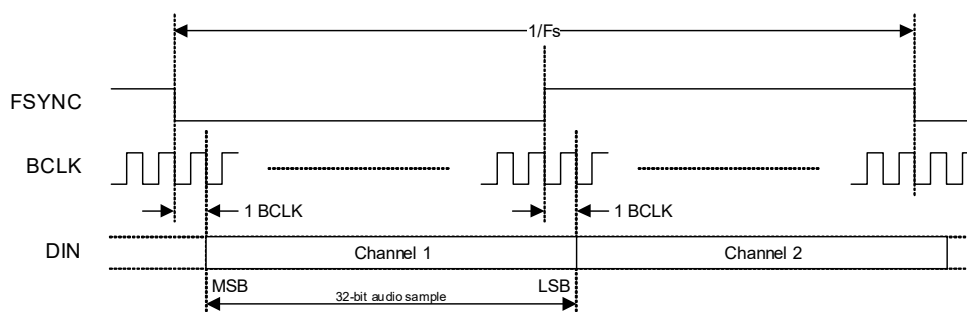
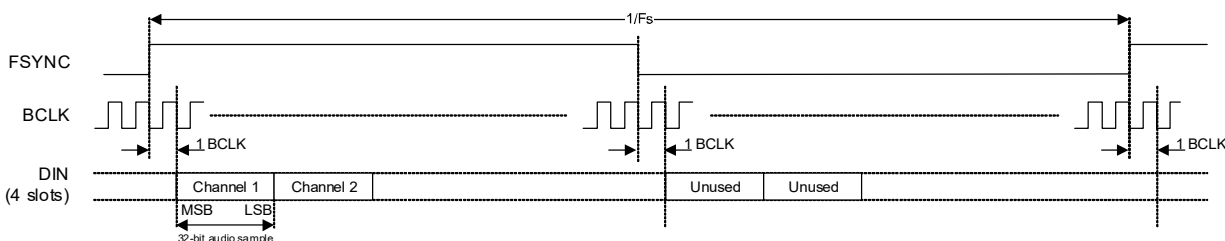

Figure 4-20. I²S Data Format
Figure 4-23. TDM Data Format, 4-Slot Example (FSYNC = Square Wave)
The ASP data format in I²S, Left-Justified, and TDM interface modes as illustrated in Fig. 4-20 through Fig. 4-23. Refer to Table 4-12 for the applicable definition.
- If I²S data format is selected, the ASP supports audio channels 1–2 as shown in Fig. 4-20. The minimum BCLK rate is $64 \times F_s$ (where F_s is the sample rate). In ASP Primary Mode, the minimum BCLK rate of $64 \times F_s$ is not supported for sample rates of 16 kHz or 32 kHz. A higher BCLK frequency can be used, resulting in unused BCLK cycles between the LSB of one sample and the MSB of the next.
An example of the 4-slot TDM format in ASP Primary Mode with the FSYNC signal configured as a square wave is shown in Fig. 4-23. In this example, audio channels 0 and 1 occupy TDM slots 0 and 1 in the high (Logic 1) phase of the FSYNC signal, TDM slot 0 and 1 in the low (Logic 0) phase of the FSYNC signal are unused.